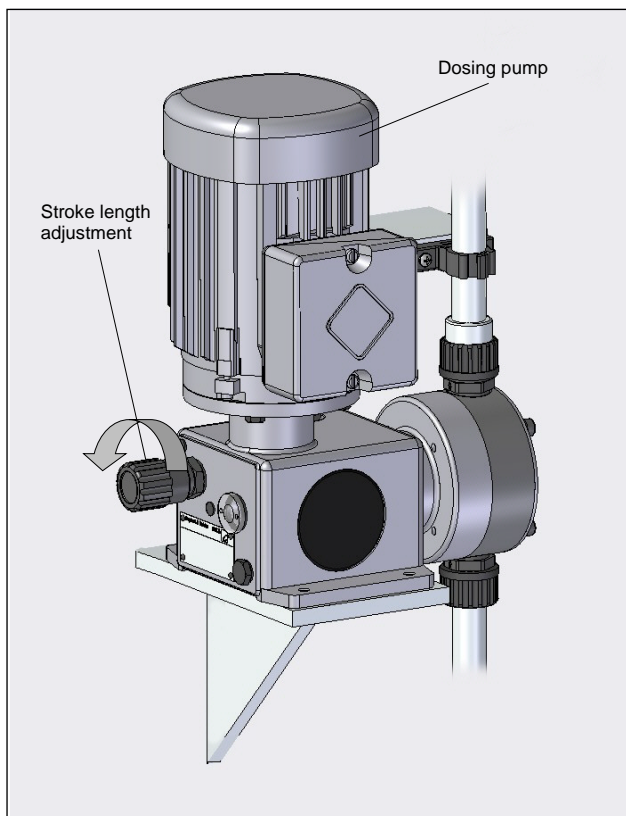

Fig. 08
- Slowly increase the delivery rate via the stroke frequency- or stroke length adjustment to the maximum setting (see Fig. 08).